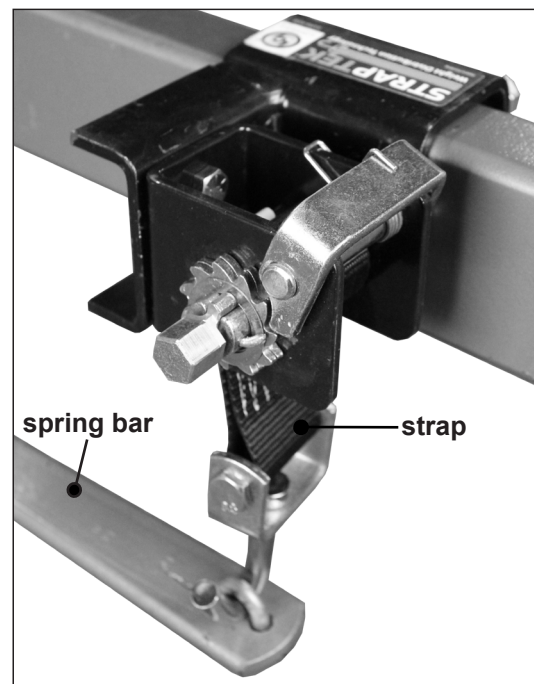

Fig. 3
3. Use a ratchet with a 3/4" socket to wind strap until spring bar is parallel to the A-frame (Fig. 3).
4. Adjust the Straptek™ tensioners on the A-frame until the straps are perpendicular with the A-frame (Fig. 3).